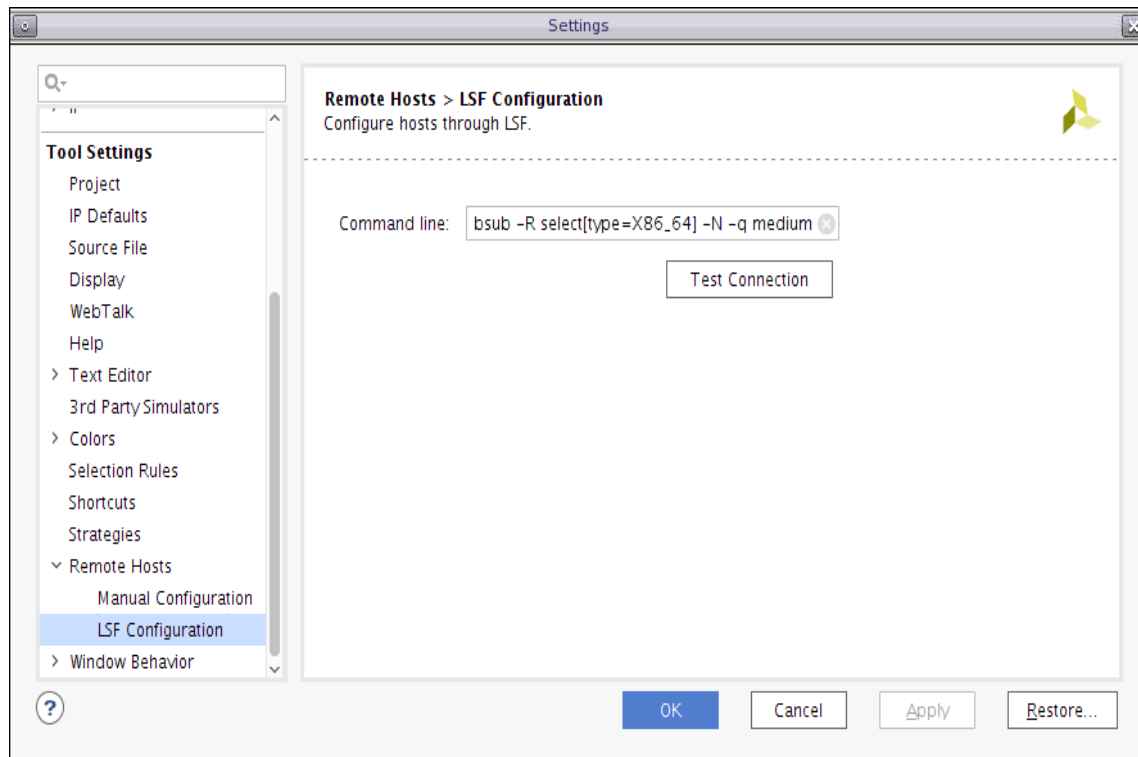

Figure A-2: Vivado Settings Dialog Box with Remote Hosts Selected
2. As shown in Figure A-2, the Vivado Settings dialog box displays, with the Remote Hosts section selected. Select the LSF Configuration tab.